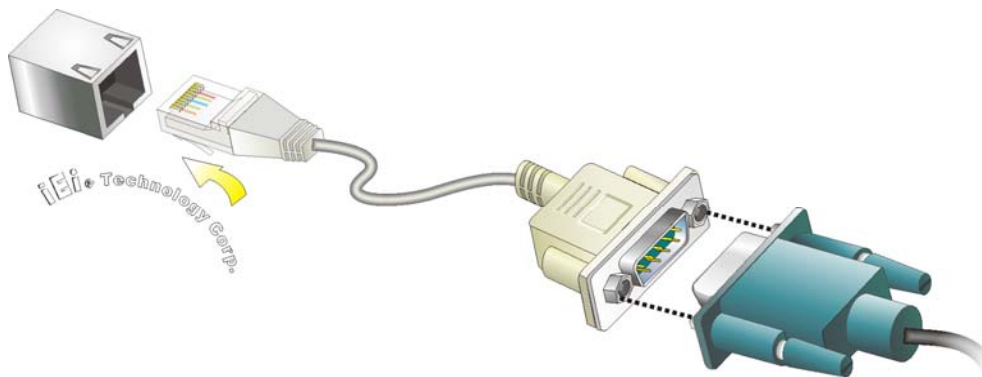

Figure 3-29: RJ-45 Serial Port Connector
Step 2: **Connect the RJ-45 to COM port cable to the panel PC.** Insert the RJ-45 connector end of cable into the RJ-45 serial port. See **Figure 3-29**.
Step 3: **Connect the serial device.** Connect a serial device to the DB-9 connector end of the cable. See **Figure 3-29**.